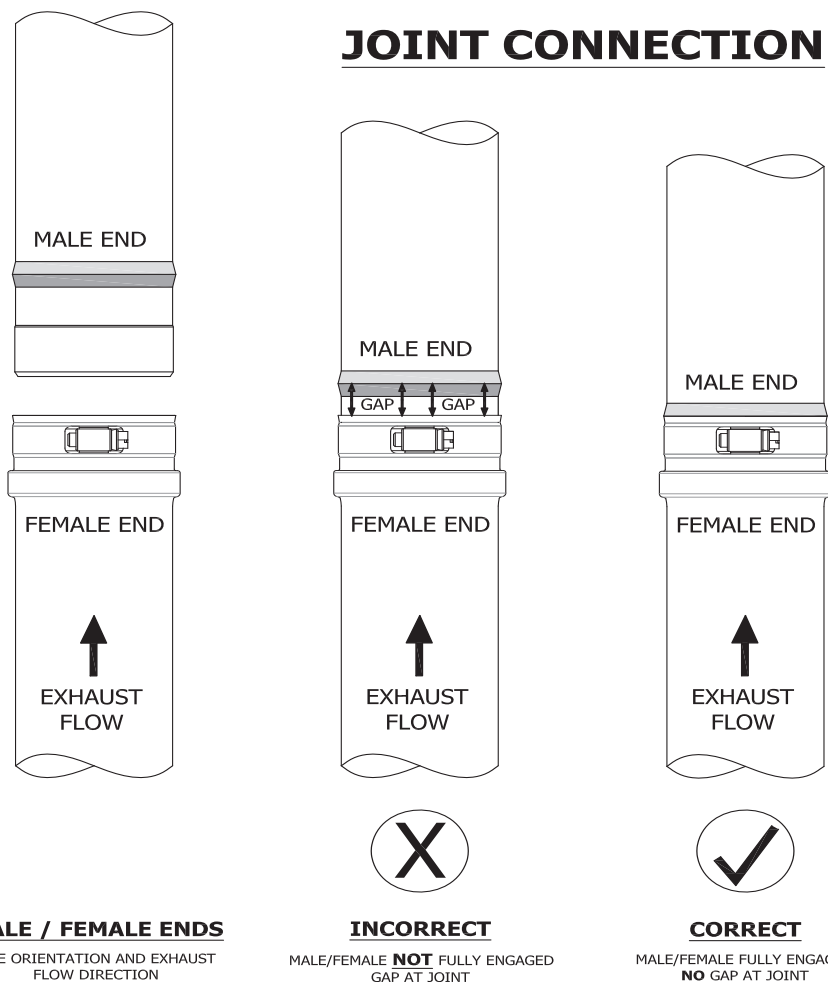
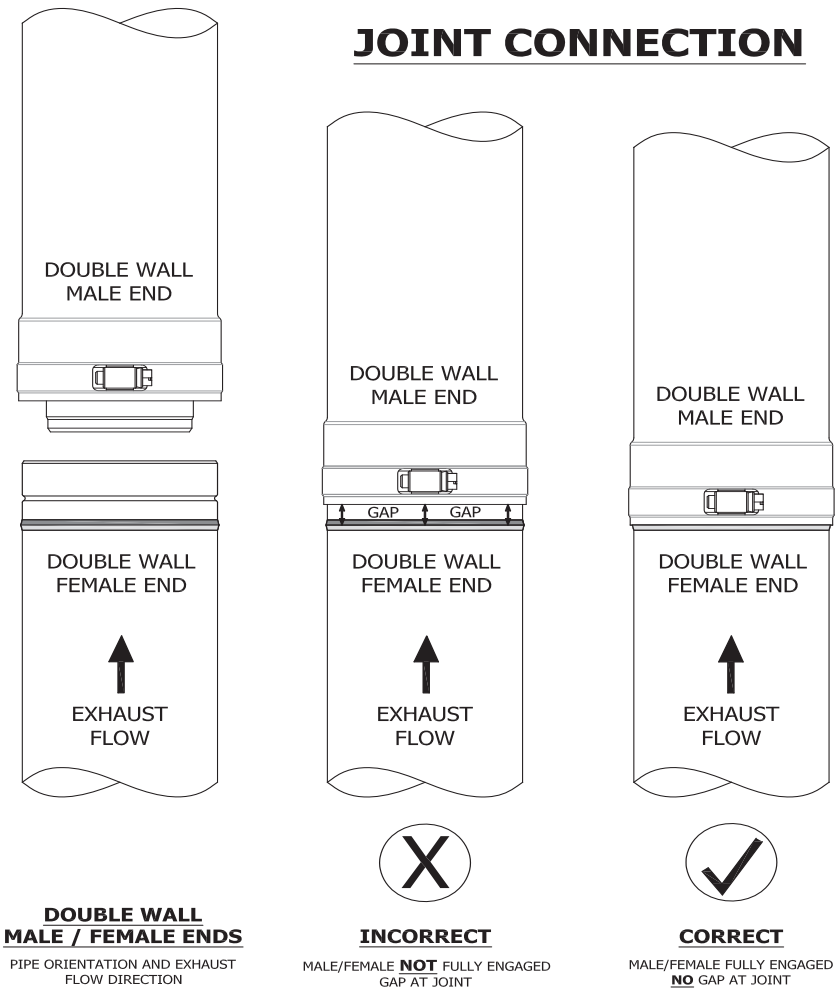

Figure 2
Figure 2a
1. Insert the male end into the female section. Push the units together and turn them until half of the bead on the male end is covered by the flared edge of the female end. (*see Figure 2 & Figure 2a*). This creates the needed airtight seal for Category II, III or IV appliances. Align the seams on the